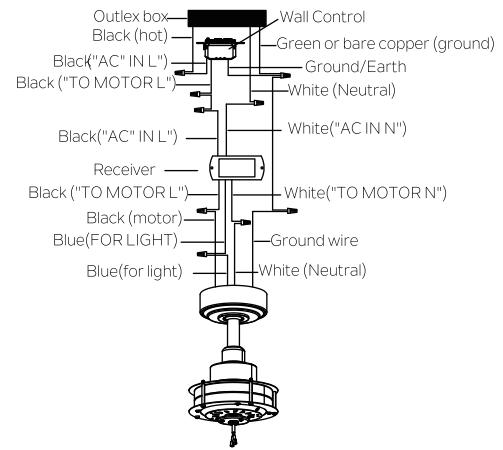

Fig. 13
**Step 2.** Motor to Receiver Electrical Connections: Connect the BLACK wire from the fan to BLACK wire marked "TO MOTOT L" from the receiver. Connect the WHITE wire from the fan to the WHITE wire marked "TO MOTOR N" from the receiver. Connect the BLUE wire from the fan to the BLUE wire marked "FOR LIGHT" from the receiver. Secure all the wire connections with the plastic wire connectors provided. ( Fig. 13)
**Step 3.** Remote Receiver to Outlet Box Electrical Connections: Connect the BLACK (hot) wire from the ceiling to the BLACK wire marked "AC IN L" from the wall control . Connect the WHITE (Neutral ) wire from the ceiling to the WHITE wire marked " AC IN N" from the receiver. Connect the BLACK (To Motor L) wire from the wall control to the BLACK wire marked " AC IN L" from the receiver. Secure the wire connections with the plastic wire connectors provided .(Fig. 13)
**Step 4.** If your outlet box has a ground wire ( green or bare copper ) connect it to the fan ground wires : otherwise connect the fan ground wire to the mounting bracket. Secure the wire connection with a plastic connectors provided. After connecting the wires, spread them apart so that the green and white wires are on one side of the outlet box and black and blue wires are on the other side. (Fig. 13)